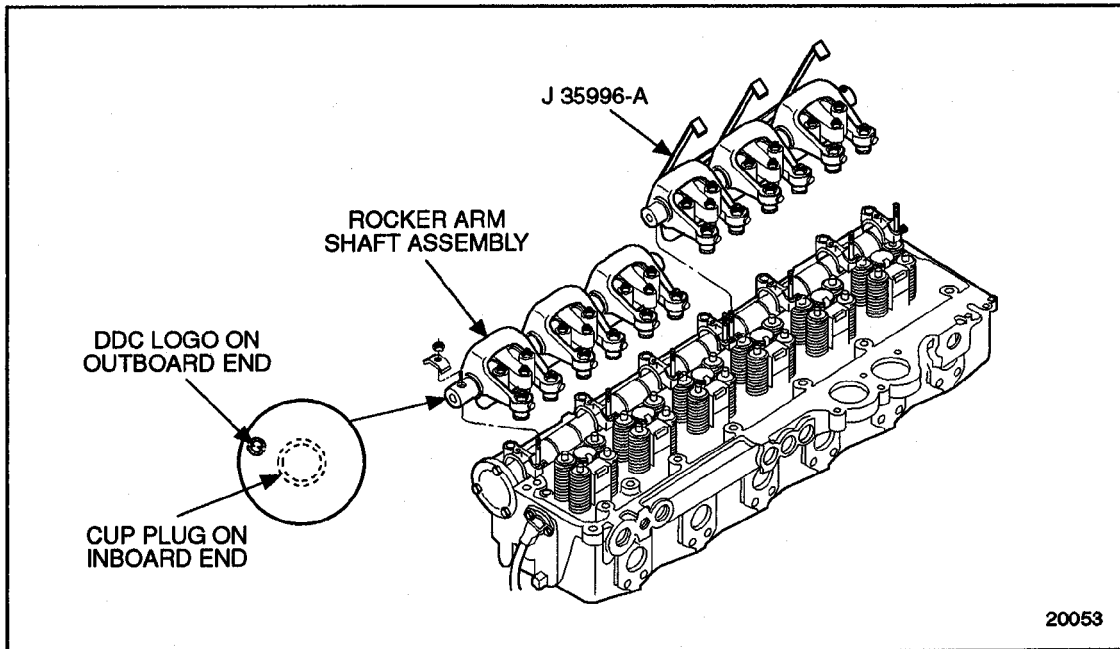

Figure 1-58 Rocker Arm Shaft Identification Mark
Front and rear rocker arm shaft sections look identical, but must not be reversed, and must be installed as removed, due to bolt hole center line distances. The DDC logo is stamped on the outboard end of each rocker shaft to ensure correct assembly and installation. See Figure 1-58.
6. Clean the exterior of the shaft and blow out the passages and oil holes and dry with compressed air. See Figure 1-58.
1. Install new cup plugs with tool J 36326 until they are 1.0-1.3 mm (0.040-0.050 in.) below the surface of the shaft. See Figure 1-58.